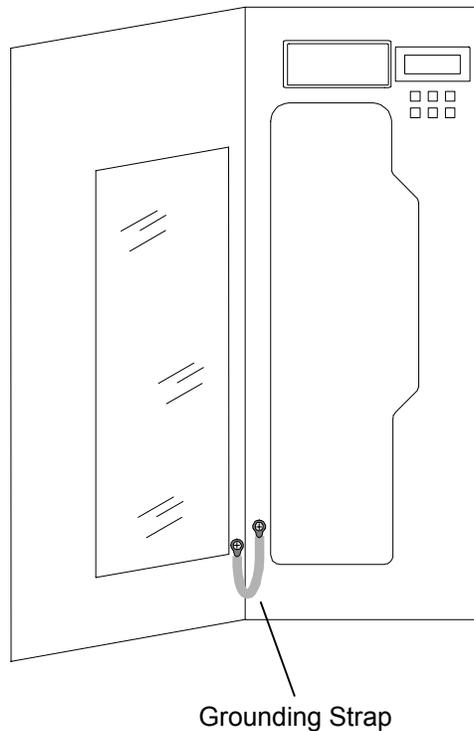

Figure 5-31 TLS Grounding Strap
1. Open the TLS' door and locate the grounding strap connected between the door and the lower-left corner of the TLS (Figure 5-31).
2. Touch by hand the head of the screw that connects the grounding strap and the lower-left corner of the TLS (Figure 5-31), to remove any static charge that may exist. Then load, move, or remove the desired data cartridges and magazines as described in Section 5.12.2 and Section 5.13.